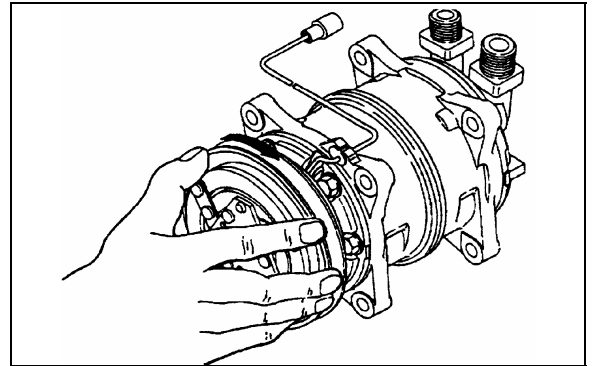

FIGURE 41: ROTATING MAGNETIC CLUTCH 22253
- * Slowly rotate the compressor's magnetic clutch several times by hand to distribute the oil which has settled in the cylinders (Refer to figure 41).